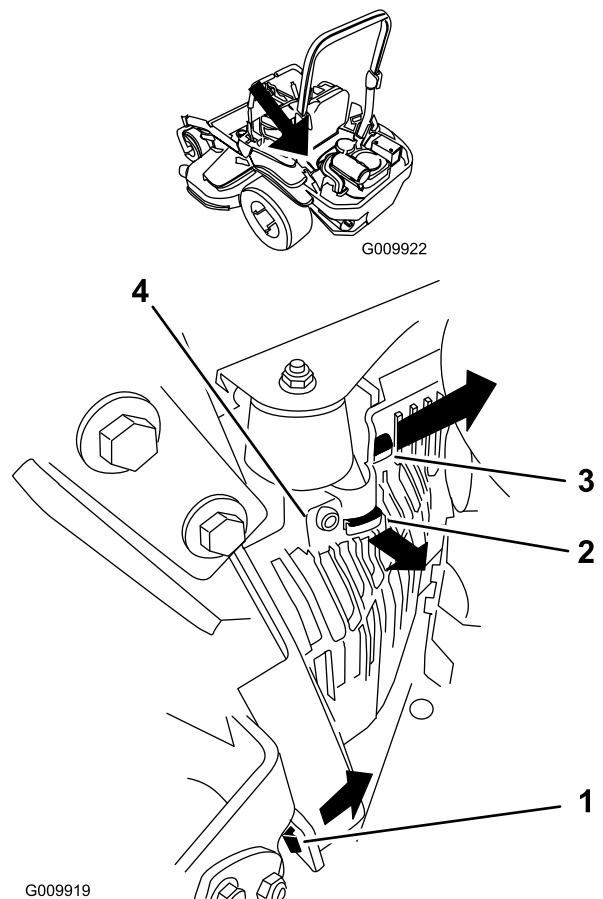

Figure 47
3. Remove the lefthand hydraulic unit shroud in the order listed with Figure 47. This gives you access to the front spark plug.
5. Install the lefthand hydraulic unit shroud (Figure 47).